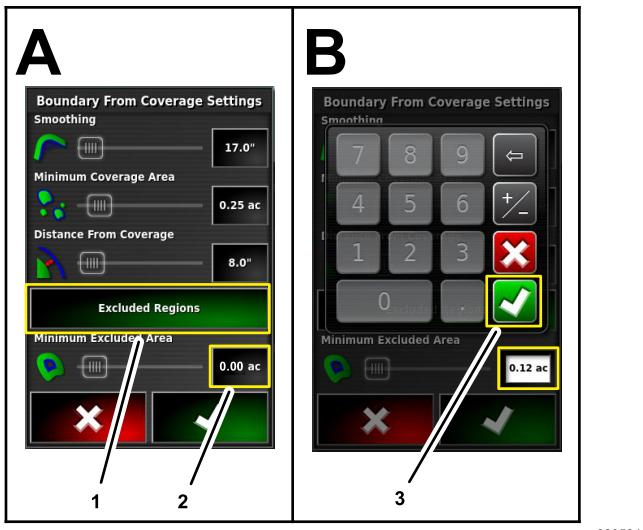

Figure 54
6. Press the Excluded Regions icon (Figure 54) to create boundaries for coverage areas that are not sprayed.
7. Press the number icon for the Minimum Excluded Area setting Figure 54). Use the on-screen keypad to enter a value, and press the confirm icon.